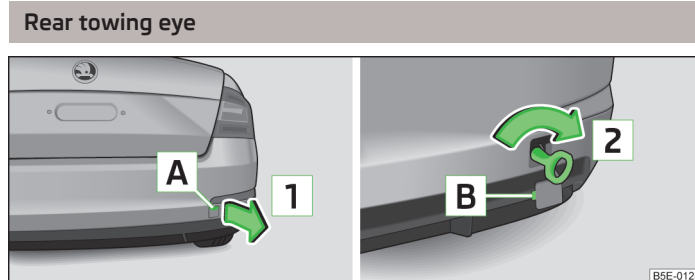

Fig. 206 Rear bumper: Removing the cap/installing the towing eye
- Press on the cover in area **A** » Fig. 206 (for vehicles Octavia RS, Octavia Estate RS on the right edge of the cap press).
- Manually screw the towing eye as far as it will go in the direction of the arrow **2** » Fig. 206 » **!**.